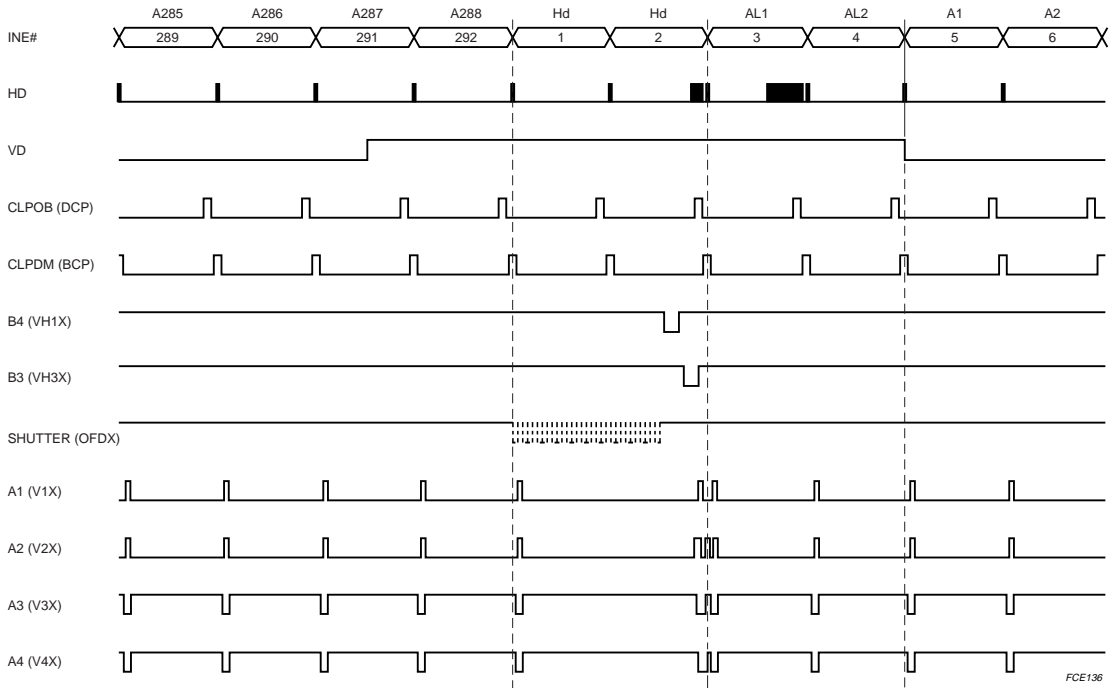

Fig.7 Vertical pulses for PAL medium resolution (1).
- Vertical pulses, see Figs 7 to 11.